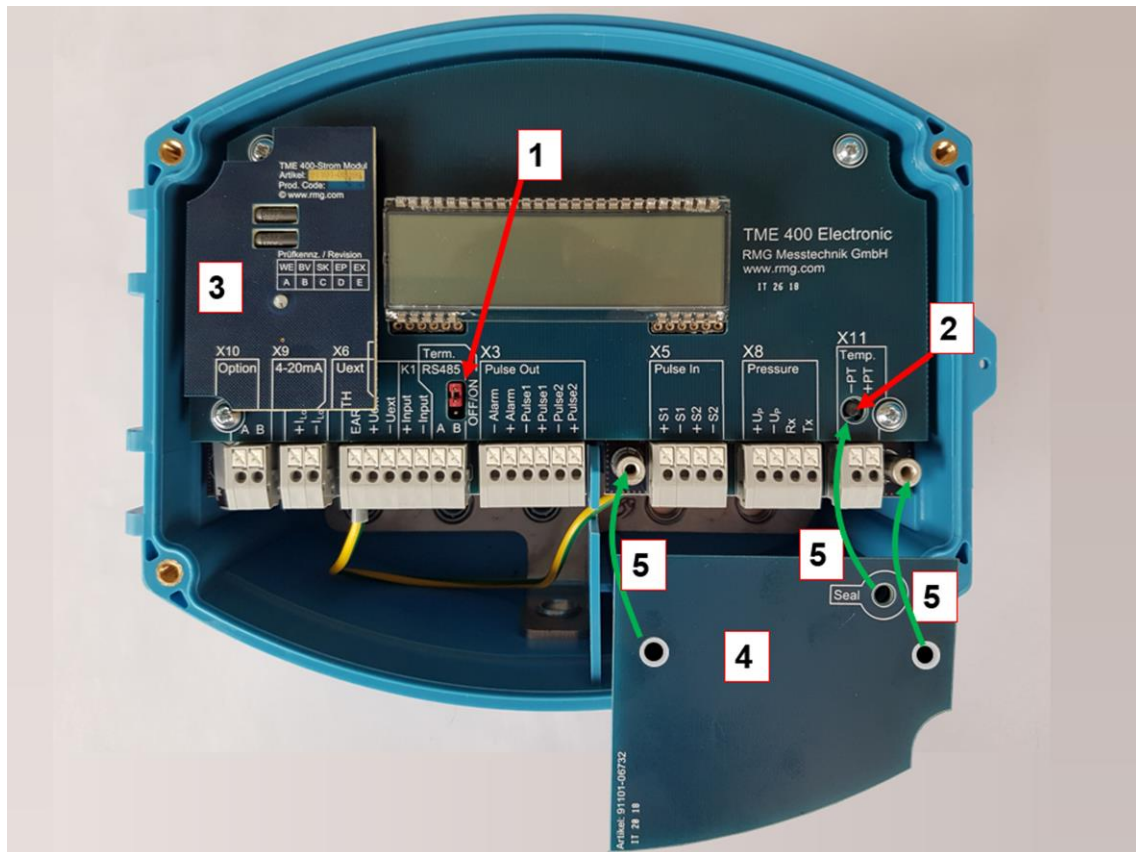

Figure 19: Electronic with power module
The power module (3) must be plugged on as shown in *Figure 19: Electronic with power module*. The current module is factory adjusted and **does not need** to be calibrated before operation.
To complete the installation, various parameters must be checked or configured. To do this, the parameter protection must be removed, either by entering the code word (see *chapter 4.3.3.7 Settings*) or by pressing the calibration button (see *Figure 19: Electronic with power module*).